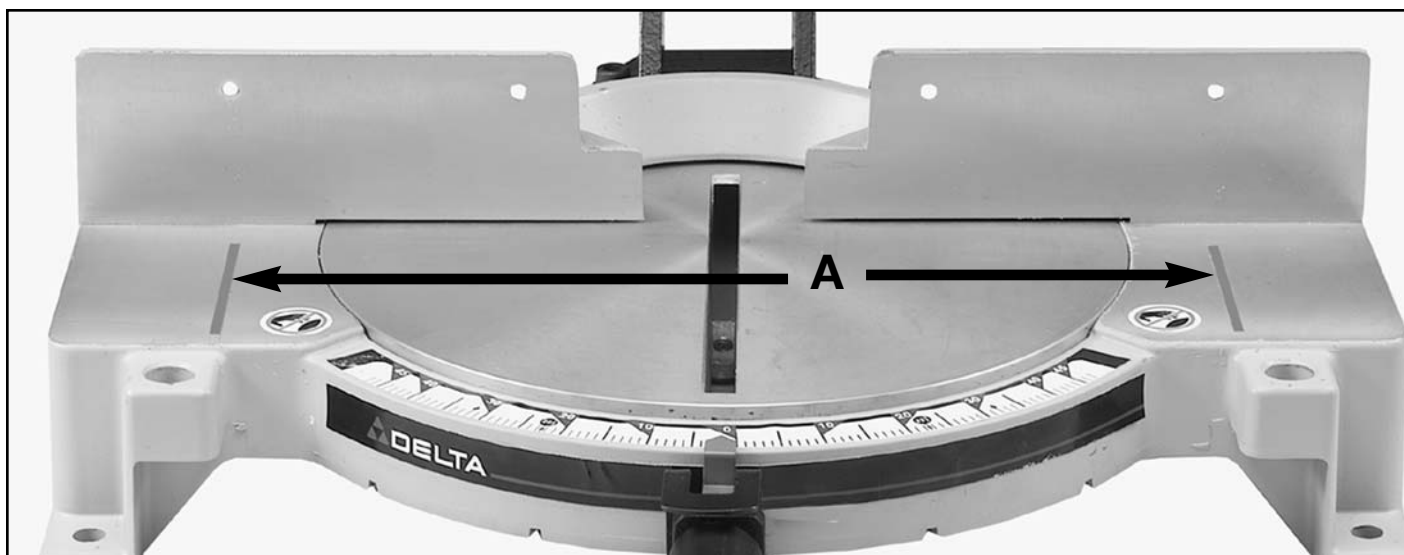

Fig. 50
**⚠ WARNING: THE AREA INSIDE THE TWO RED LINES (A) FIG. 50, ON THE TABLE IS DESIGNATED AS A HAZARD ZONE. NEVER PLACE YOUR HANDS INSIDE THIS AREA WHILE THE TOOL IS BEING OPERATED.**